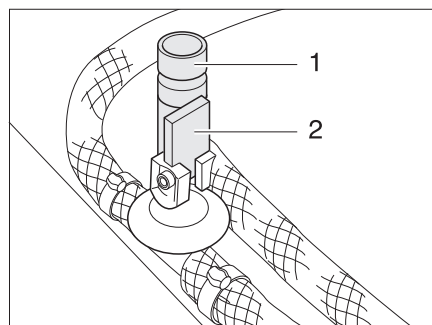

Fig. 130 Drain cocks for Truma boiler
- Close all boiler drain cocks. To do this, position the rocking lever (Bild 130,2) horizontally or turn the cap (Bild 130,1) in a clockwise direction.
- Open all boiler drain cocks. To do so, position the rocking lever (Bild 130,2) vertically or turn the cap (Bild 130,1) anticlockwise.